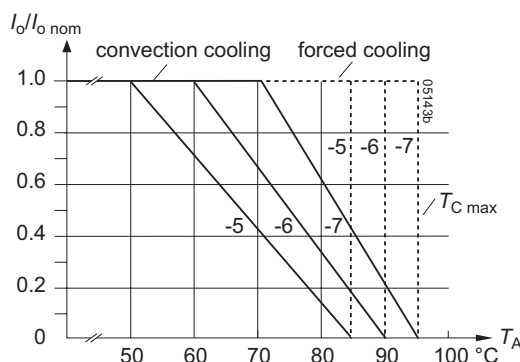

Fig. 12
**Notes:** Sufficient forced cooling or an additional heat sink (applied to -7 or -9) models allows  $T_A$  to be higher than 71 °C (e.g., 85 °C), if  $T_{C \max}$  is not exceeded. Details are specified in fig. 12, including -5 and -6 models.